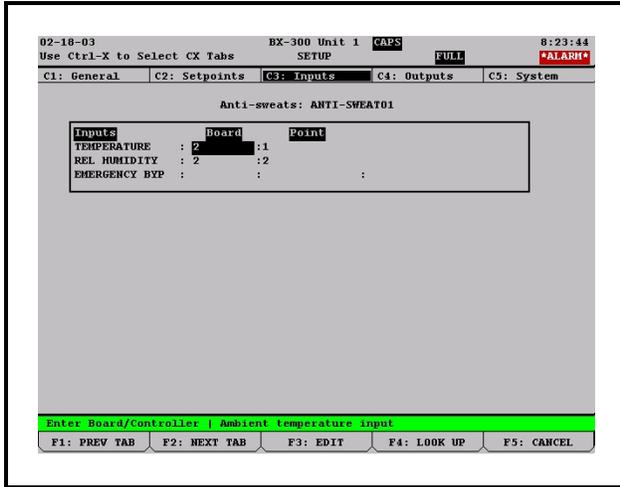

Figure 3-4 - Anti-Sweat Inputs Setup Screen
3. Press **F2** (NEXT TAB) to advance to the Inputs Setup screen (*Figure 3-4*).